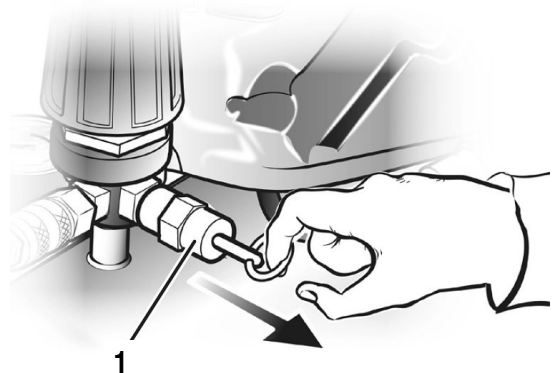

Fig. 6: Safety valve
Step 2: Open the safety valve (Fig. 6) by pulling the ring outwards (the pressure tank must be under pressure) until the compressed air audibly blows off. Then release the ring.